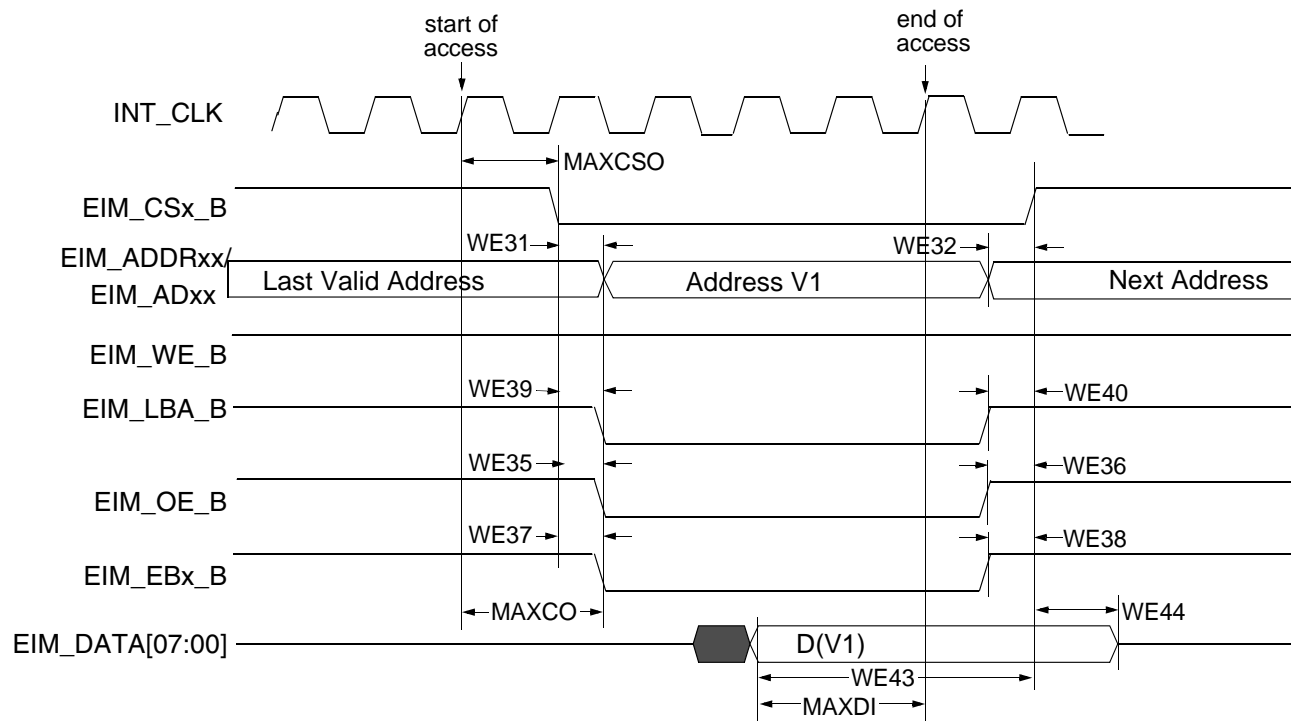
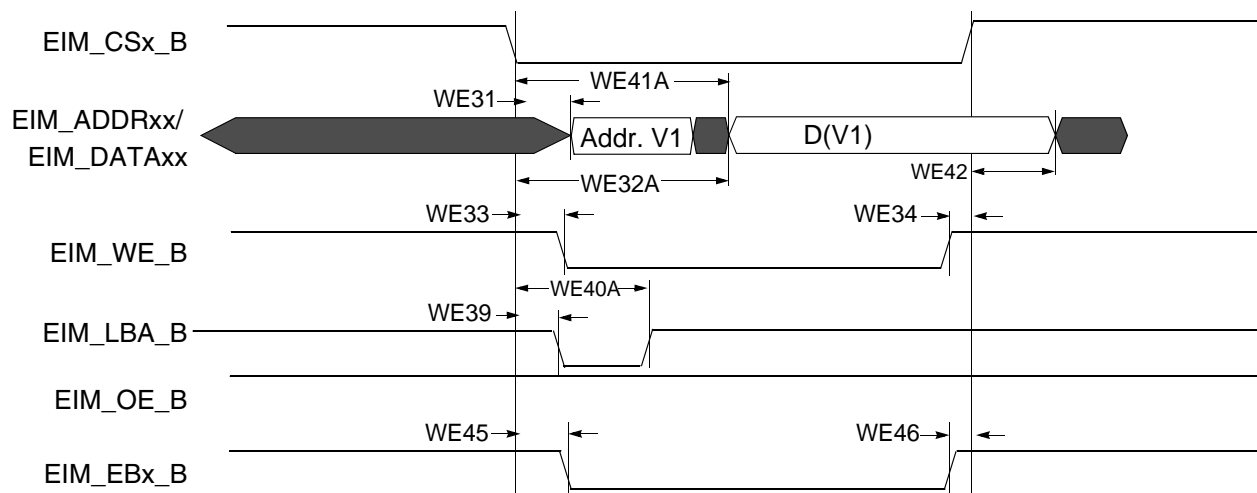

Figure 16. Asynchronous Memory Read Access (RWSC = 5)
Figure 19. Asynchronous A/D Muxed Write Access
Figure 16 through Figure 20 and Table 37 provide timing parameters relative to the chip select (CS) state for asynchronous and DTACK EIM accesses with corresponding EIM bit fields and the timing parameters mentioned above.
Asynchronous read & write access length in cycles may vary from what is shown in Figure 16 through Figure 19 as RWSC, OEN & CSN is configured differently. See the i.MX 6Dual/6Quad reference manual (IMX6DQRM) for the EIM programming model.